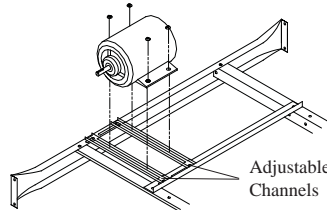

Fig. 2
- **Mount motor.** Slide the heads of the provided carriage bolts into the slots of the adjustable channels. Slide these channels sideways in the slotted holes to align with the holes in the motor base and to align the motor shaft with the blower pulley. Mount the motor to the motor mount using these carriage bolts and the washers and nuts provided (see Fig. 2). Make sure all bolts are securely tightened.